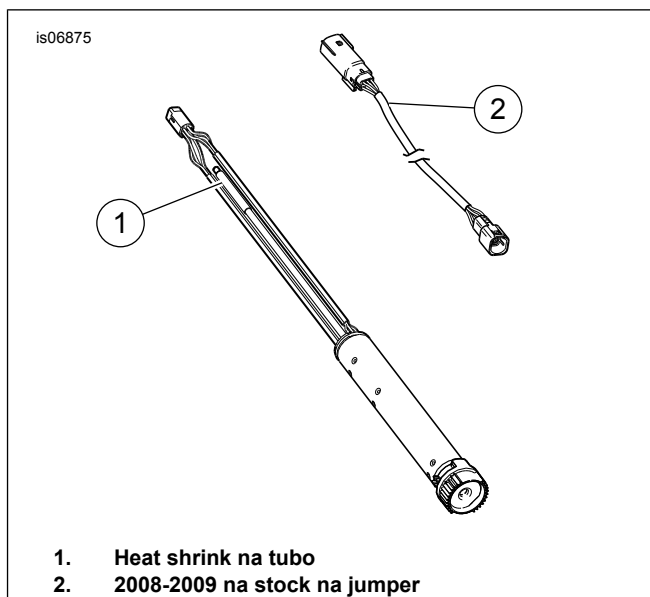

Figure 2. 2008 at 2009 na TGS at Harness
3. Tingnan ang Figure 2 . Alisin ang TGS jumper harness mula sa TGS at pangunahing harness at itapon ang stock na jumper harness (2).